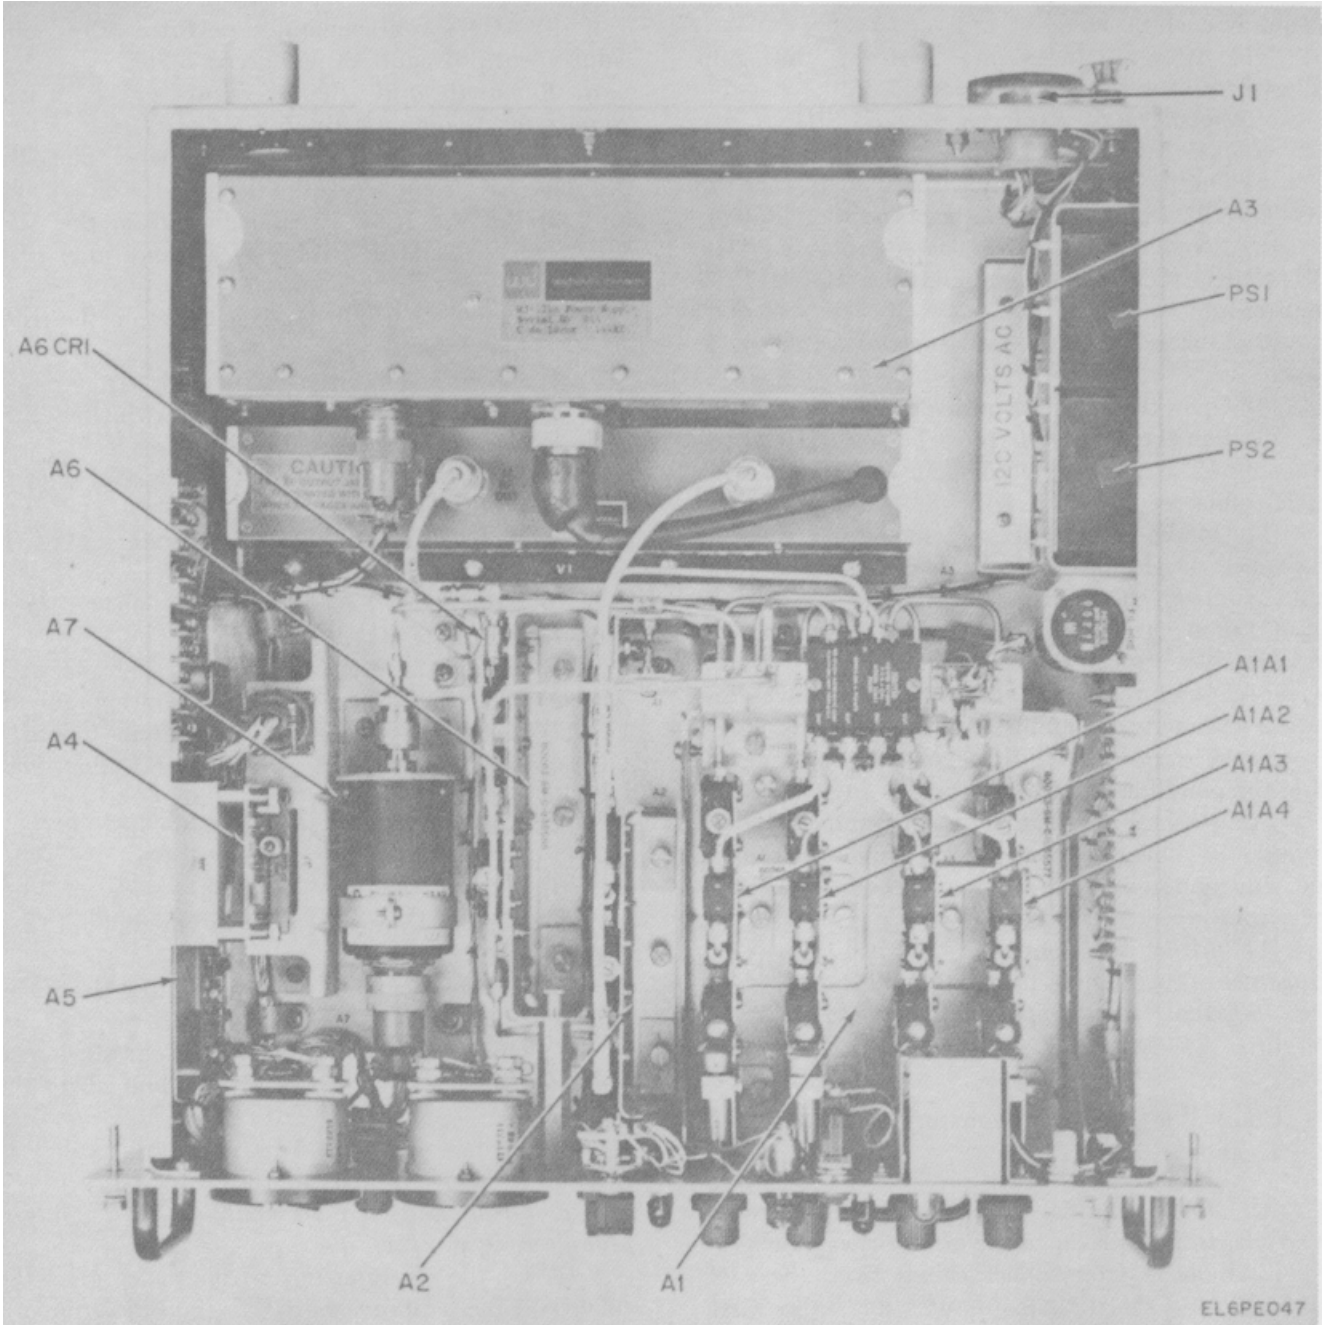

Figure 5-18. Downconverter, Adjustment Controls and Module Locations.
(18) See figure 5-18 for the downconverter adjustment control locations. Observe the power meter. On downconverter module A2, adjust gain control R5 and R6 to obtain 10.6 dBm of output or 50 dB above level measured in step (12) above. The controls are interacting. It is suggested, therefore, that one control (R5) be set to approximately midrange and the other (R6) adjusted to obtain the reference level. Try to keep the settings away from the extreme ends of rotation.
(19) Connect the HP 436A power meter with the HP8481A power head to the 700 MHz IF output J3 of downconverter.
(20) Read and record the 700 MHz output level of the downconverter. The output level now may or may not indicate the reference level of step (18) above. Regardless of the indication, proceed to step (21) below and adjust the gain controls.
(21) See figure 5-18, downconverter adjustment control locations. Observe the power meter. On downconverter module A3, adjust gain controls R8 and R9 to obtain step (18) above level. The controls are interacting. It is suggested, therefore, that one control (R8) be set to approximately midrange and the other (R9) adjusted to obtain the reference level. Try to keep the settings away from the extreme ends of rotation.
(22) Remove all special test cables and devices from the downconverter, upconverter, and LNA control/translator. On the latter two units, restore the normal module and rear panel cable connections, respectively.
(23) Close and secure all four of the above unit drawers except do not secure the captive fasteners on the downconverter.
(24) Check that the downconverter is tuned to 7500 MHz. (Refer to the above steps in this paragraph.)
(25) Restore the normal terminal cabling to the unit front panel connectors. Return the special test cables and devices to their respective stowage areas.
(26) On the downconverter, remove the terminal cable from the front panel SHF IN connector.
(27) Connect the male end of the 4 dB test cable W403 to the downconverter SHF IN connector. Connect the cable W404 to the loose end of cable W403 and the downconverter TEST SIGNAL connector.
(28) Place the downconverter MONITOR switch to the TEST position and extend the unit from the rack. See figure 5-18, downconverter adjustment control locations. Place RCVR FAULT switch to 70.
(29) Observe the RCVR FAULT indicator. On downconverter module A2, adjust control R3 (spectrum test) until the indicator just illuminates from an off condition. The MONITOR meter should indicate approximately 15 units.
(30) Place RCVR FAULT switch in 700 position and observe the RCVR FAULT indicator. On downconverter module A3, adjust control R2 (spectrum test) until the indicator just illuminates from an off condition. The MONITOR meter should indicate approximately 15 units.
(31) Disconnect the adapter test cable W404 from the 4 dB test cable W403 and the TEST SIGNAL connector.
(32) Connect the loose end of the 4 dB test cable W403 to the terminal SHF input cable.
(33) Place the downconverter MONITOR switch to the IF OUT position and RCVR FAULT switch to 70.
5-31. Removal and Replacement of Downconverter Modules (fig. 5-18)